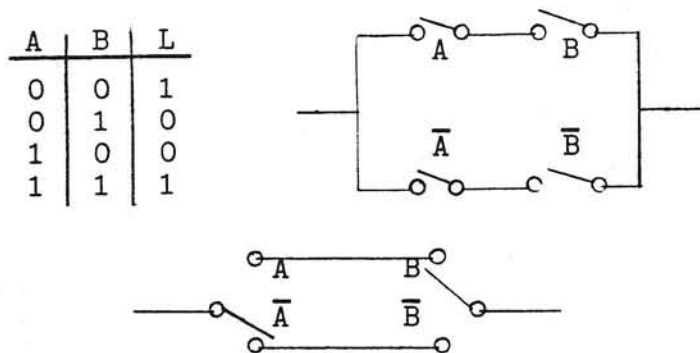

Figure 9: Truth Table and circuit diagram for the coin matcher.
The first step in the design is to construct a truth table (sometimes called a closure table) for the system. We require that when A and B are both on the light is lit, when they are both off the light is lit, but when they have different settings (one on, the other off) the light is off. The truth table we would like to implement is clearly the one shown in Figure 9. This is constructed by first listing the four possible combinations for two switch settings, that is 00, 01, 10, and 11. For each of these switch settings the desired value of L is listed, completing the truth table. It is seen that when the switches "match" then  $L = 1$ , otherwise it is 0.
For the first step above and the truth table of Figure 9, we obtain the products  $\bar{A} \cdot \bar{B}$  and  $A \cdot B$  from the first row and the last row, respectively. Step two then gives the equation,
which is the equation for the circuit. It is important for you to verify, by substituting in the various values of A and B given in Figure 9, that this equation does not in fact give the desired values of L.
The final step in the design is to construct a circuit which is equivalent to the equation (4). An examination of this equation indicates that we need two parallel branches, one containing  $\bar{A}$  in the series with  $\bar{B}$ , the other containing A series with B. This circuit is shown in Figure 9. The battery and the light have been omitted for simplicity. Clearly the circuit could be constructed with two SPDT switches.